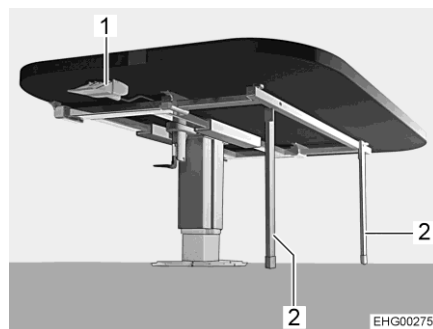

Fig. 42 Table, lowered (bed foundation)
- Release and unfold the supports (Fig. 42,2) from the frame on the bottom side of the table top. The supports must be fully folded out.
- Press the release button (Fig. 42,1) and hold it down.
- Release the release button (Fig. 42,1). The table top is locked in the lower position.